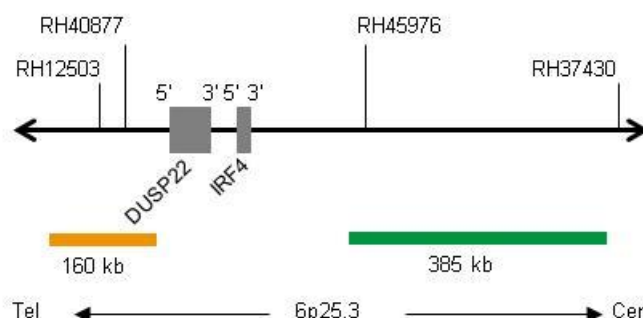

Fig. 1: SPEC IRF4, DUSP22 Probe map (not to scale)
- ZyGreen (excitation 503 nm/emission 528 nm) labeled polynucleotides (~7.8 ng/μl), which target sequences mapping in 6p25.3* (chr6:557,233-940,968) proximal to the IRF4,DUSP22 gene region (see Fig. 1).
- ZyOrange (excitation 547 nm/emission at 572 nm) labeled polynucleotides (~3.6 ng/μl), which target sequences mapping in 6p25.3* (chr6:114,722-273,908) distal to the IRF4, DUSP22 gene region (see Fig. 1).